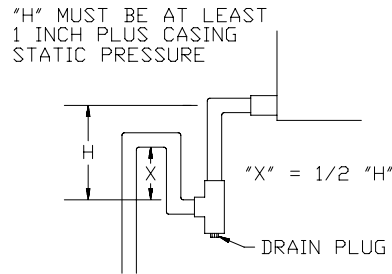

FIGURE 4A
- Drain lines should be at least the same size as the drain pan connection. Properly sized traps should be used to allow the condensate from the coils to drain from the drain pan. See **FIGURES 4A - 4E** below.